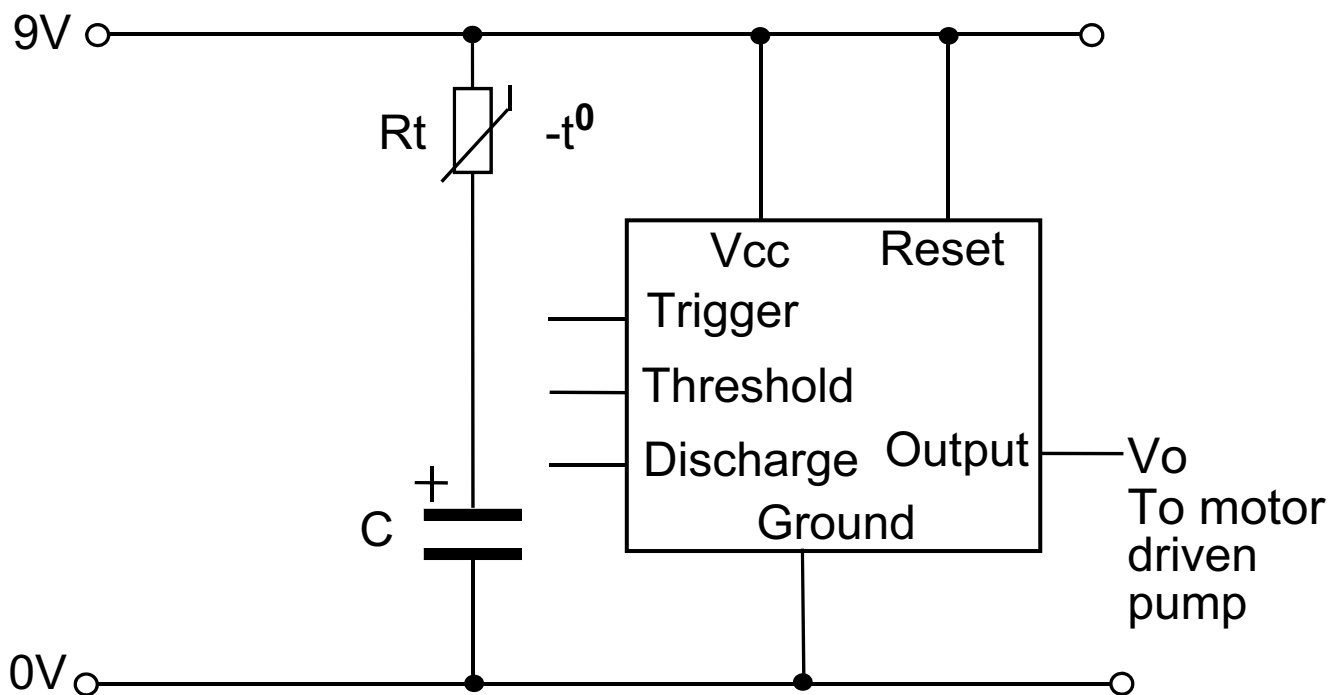

Fig. 8
- (b) An electronic system has been designed to control a pump associated with an industrial process. When required, an operator pushes a switch which in turn will start the motor driven pump. The time the motor operates for is dependent on the temperature of the industrial process. The system is based on a 555 timer and the incomplete circuit is shown in **Fig. 8**.
- (ii) Complete the circuit in **Fig. 8** by connecting the trigger, threshold and discharge pins, using additional components where appropriate so that the circuit will function as outlined. [3 marks]
- (iii) Calculate the resistance of the thermistor R_t in **Fig. 8** if the time period of the output V_o is 7.48 seconds and the value of C is $100\mu\text{F}$. Assume the circuit is complete. [3 marks]